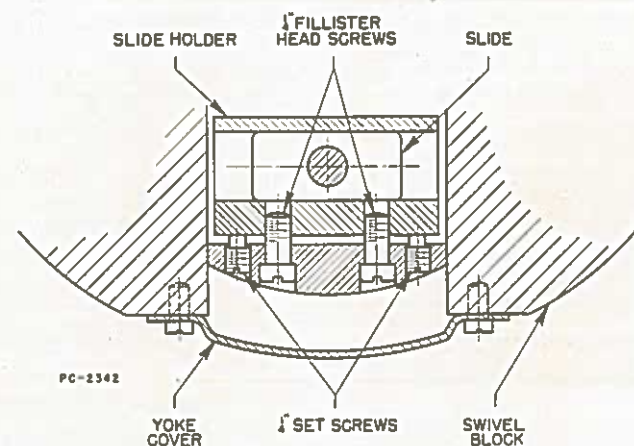

FIGURE 12A
1. Disengage Worm from Worm Wheel by turning handle on Eccentric 180° (Figure 12A). Remove spindle thread cover from spindle nose, unscrew four $\frac{3}{16}$ " Fillister Head Screws and remove Front Plate.
To Adjust Worm (Figures 12A, 13A)